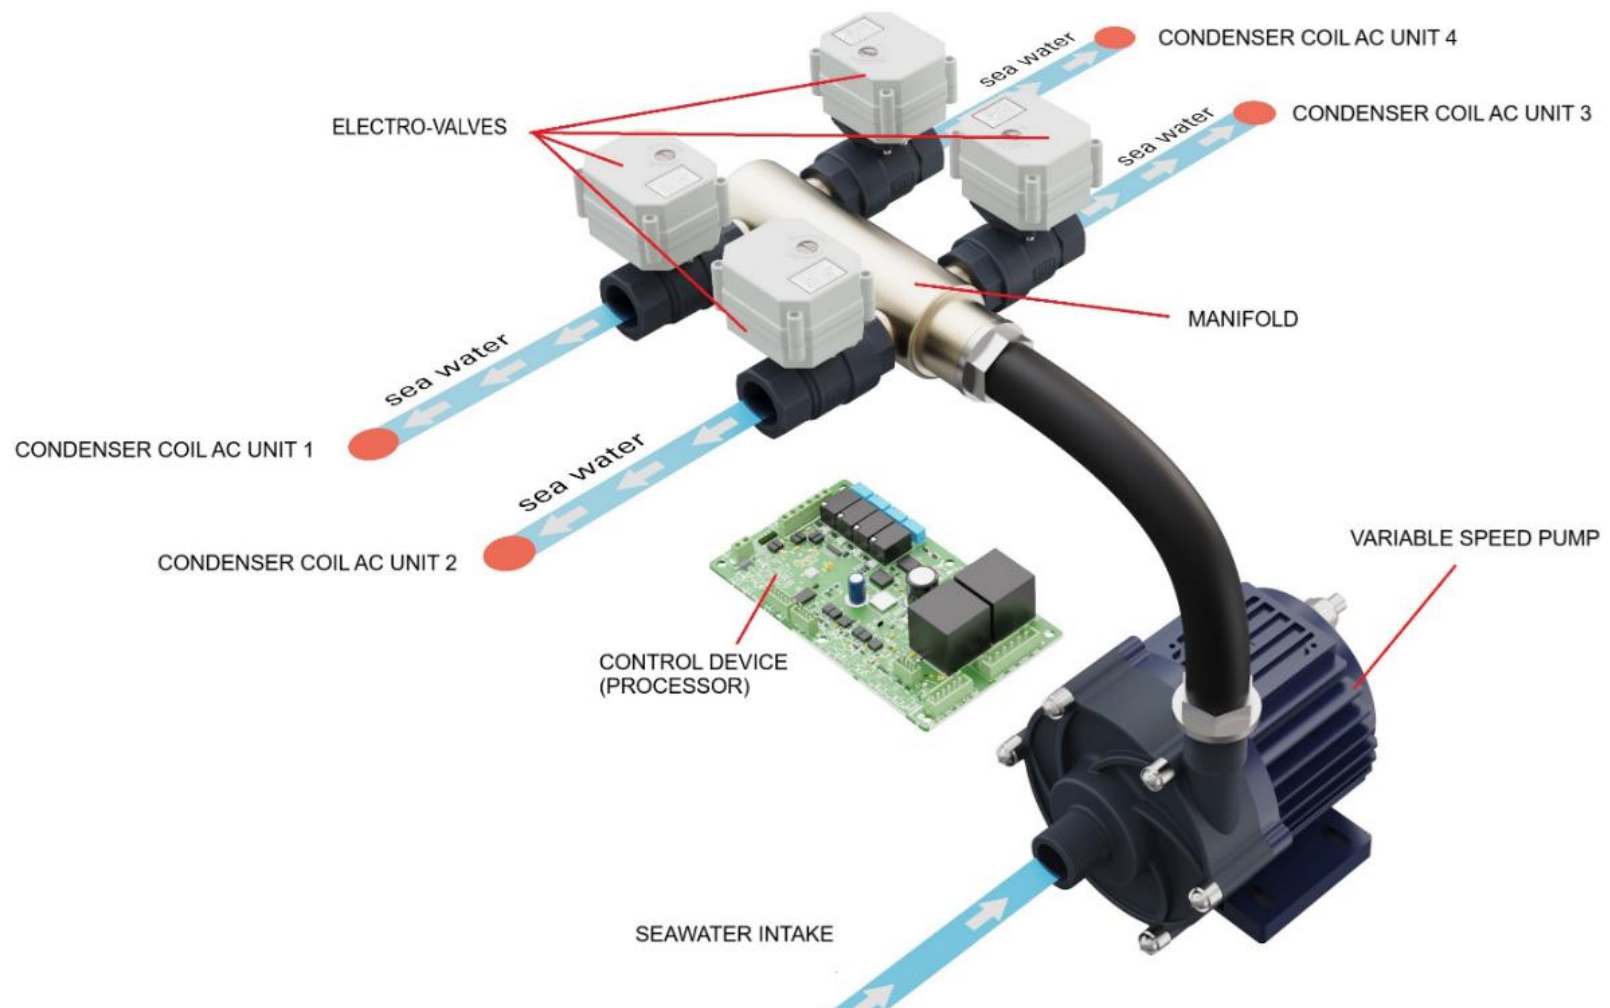

Figure 2: Efficient Flow AC controller assembly
- Figure 2: Efficient Flow AC controller assembly